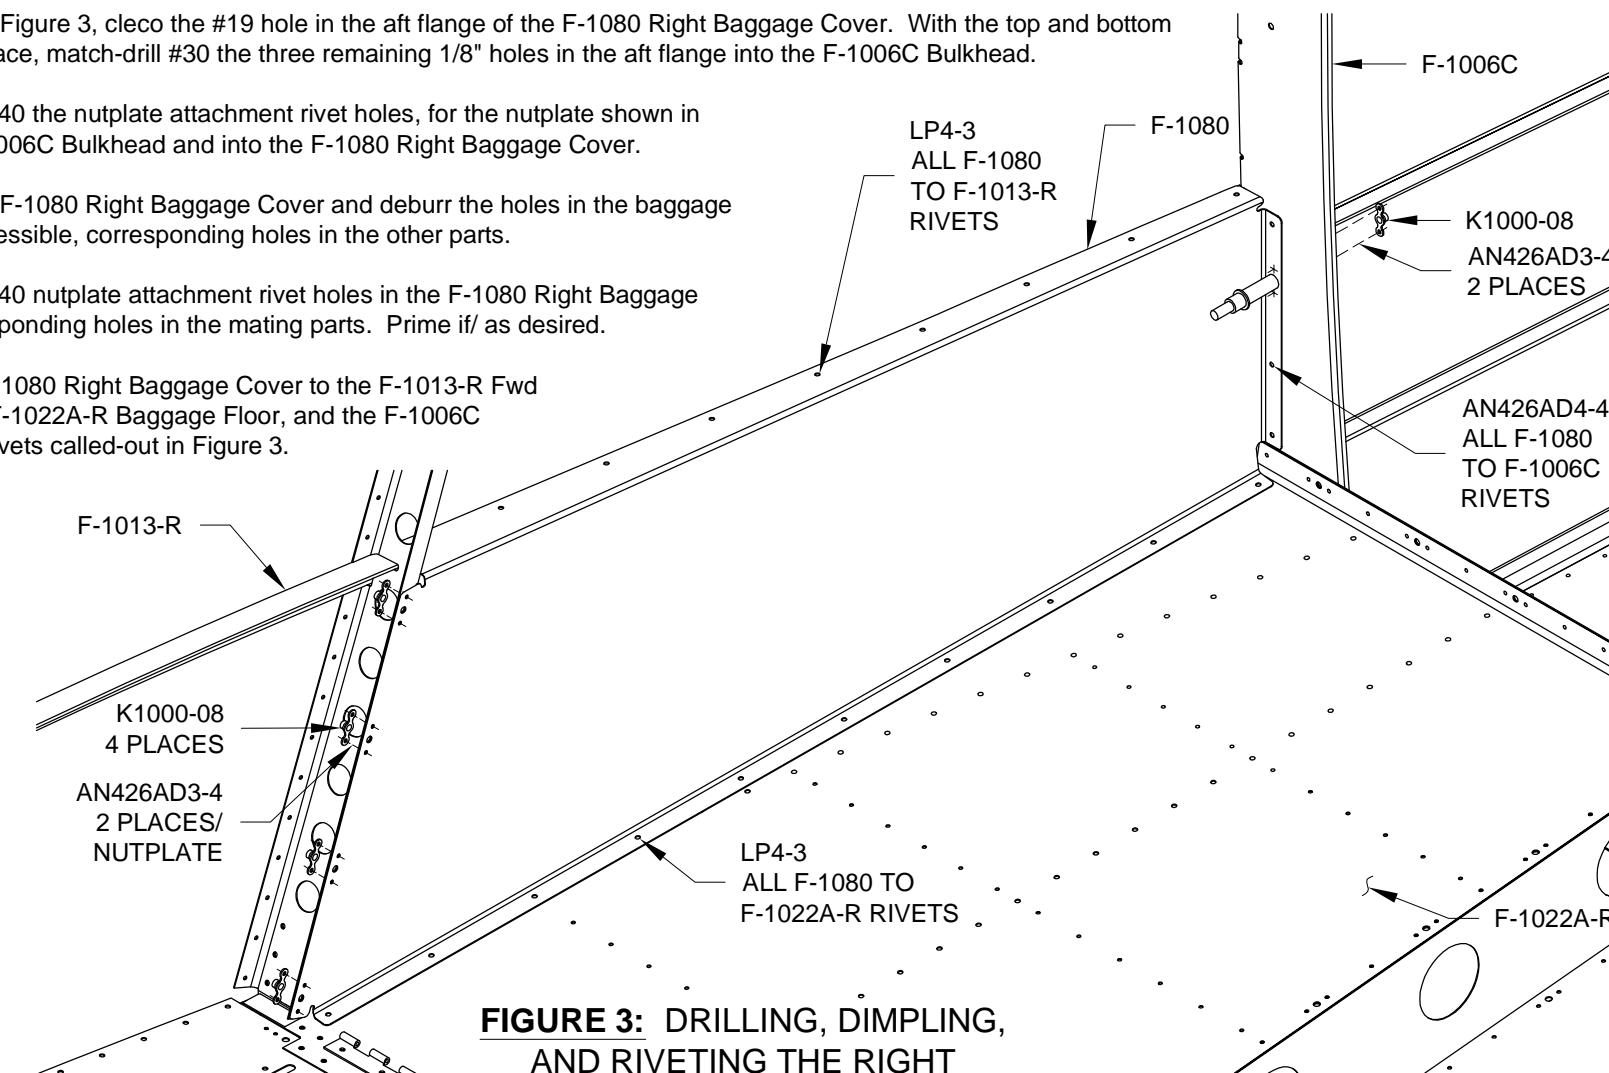

FIGURE 3: DRILLING, DIMPLING, AND RIVETING THE RIGHT BAGGAGE COVER
Step 10: Rivet the F-1080 Right Baggage Cover to the F-1013-R Fwd Fuse Longeron, the F-1022A-R Baggage Floor, and the F-1006C Bulkhead using the rivets called-out in Figure 3.
Step 11: Install all of the nutplates shown in Figure 3 using the rivets called-out.